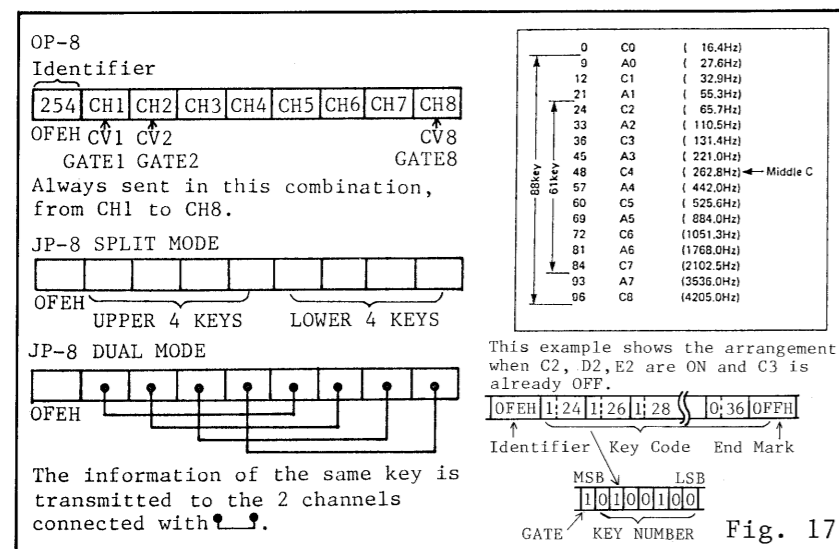

Fig. 17
The transmitter assigns the keys played on its keyboard to individual channels, coding each key information in 8-bit format where MSB 1 bit represents GATE ON (1) or OFF (0). The remainder (7 bits) represents key designation (name) listed in the table below (Fig. 17) (Hexa-decimal). Then, the transmitter places all the channels on the DCB sequentially in the order of its key assign mode. The receiver, upon receiving channels, assigns its voices to them by its own key assign mode which will differ between models. Fig. 17 shows some rather distinguishable key assignments. The transmitter need not delete the unnecessary channel(s), instead it turns MSB to 0 (GATE OFF).